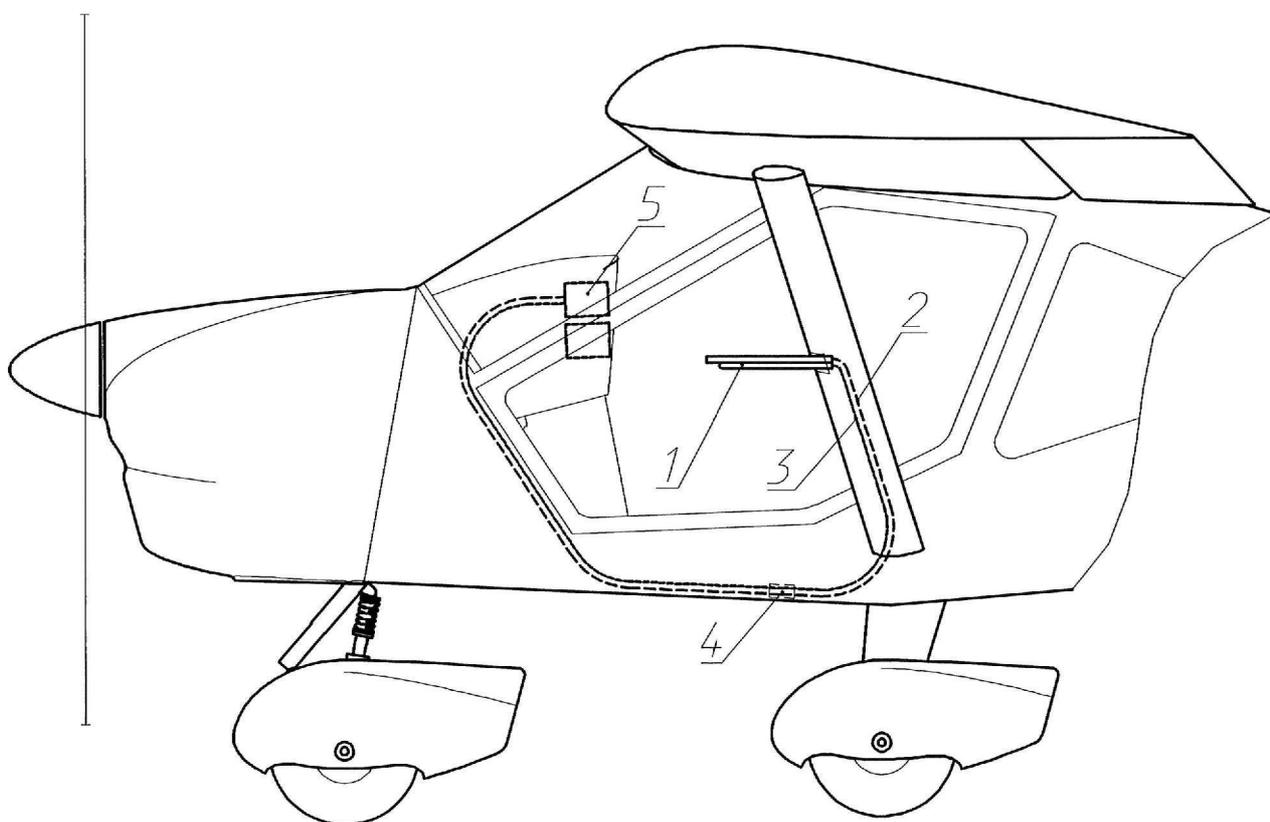

Fig. 14 Full and static pressure system
This system supplies the full (dynamic) and static pressure of the outside air to the instruments measuring the flight parameters: airspeed, rate of climb and altitude. The system consists of the full and static pressure probe (1) and full (2) and static (3) pressure lines connecting the probe to the instruments (see **Fig. 14**). Full and static pressure lines have joints (4) used to disconnect the lines when the left wing is removed during aircraft disassembly.
4. Disconnect the full and static pressure lines at their joints (4, see **Fig. 14** at page **42**).